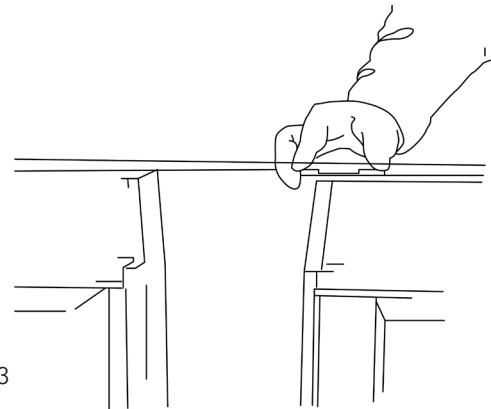

Figure 3
- Run string line across top of the wallboxes at the drawcut and undercut ends. (Figure 3)